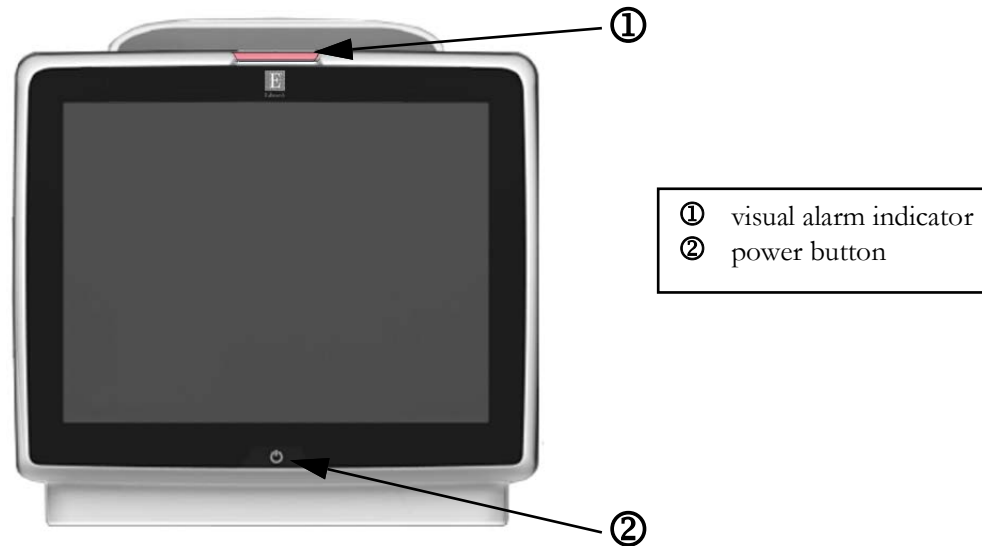

Figure 3-1 HemoSphere advanced monitor front view
To power the monitor off, touch the power button. See ② in Figure 3-1 on page 69. The following options will be displayed: